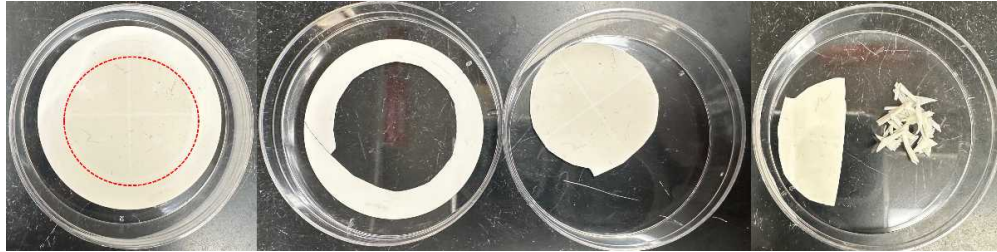

Figure 1. The examples of membrane trimming and cutting.
- 44 Trim off the outer circle of the membrane that had no water sample flowing through, discard the outer circle (see Figure 1).
- 46 Place 4 halves of the filter membranes from different filtrations of the same water sample in a new Petri dish and store the unused half membranes in the original Petri dish at -20 °C for future use (see Figure 1).
- 47 Use the forceps to stack the 2 half membranes, then fold the stacked halves into a smaller sector and cut it (smaller than 1 mm x 3 mm , see example in Figure 1) into the a tube prepared in step 40 (Suggest collecting the 2 half membranes before PEG-8000 in tube A and the 2 half membranes from after PEG-8000 treatment in tube B).